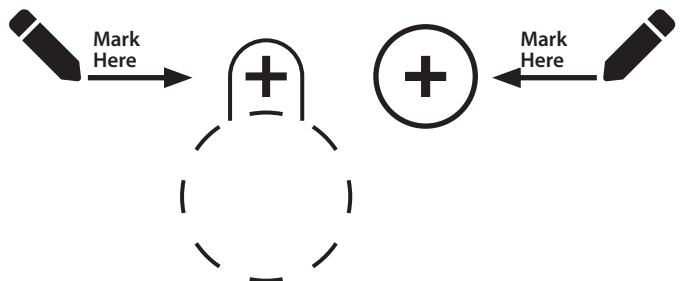

FIG. 5a
- 5** Place a mark through the Template's (G1) paper at each indicated crosshair (four keyway holes and one center hole), then remove the Template (G1) from the wall [FIG. 5a].